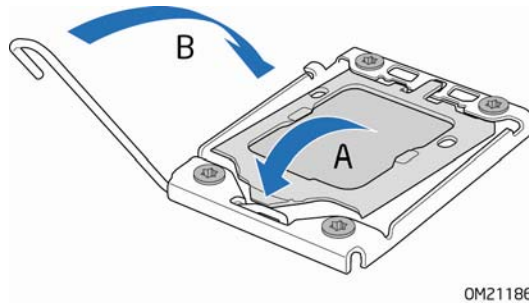

Figure 14. Close the Load Plate
7. Pressing down on the load plate (Figure 14, A), close and engage the socket lever (Figure 14, B).